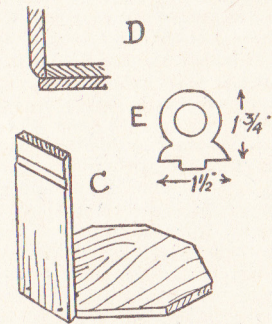

Fig. 2—Constructional details
the handle; then glue and nail the octagon to the bottom of the barrel. It should just cover it, as in detail (D) in Fig. 2.
For a handle, a wood or metal knob can be fitted, but failing that a handle can be cut to the shape shown at (E) Fig. 2, from the circle of fretwood cut from the base. Take the second octagonal, the fretwood one, and in its centre cut out a mortise slot to fit tightly the tenon at the foot of the handle. Now glue the deal octagon to the underside of the fretwood one, and glue the handle in. This completes the work.